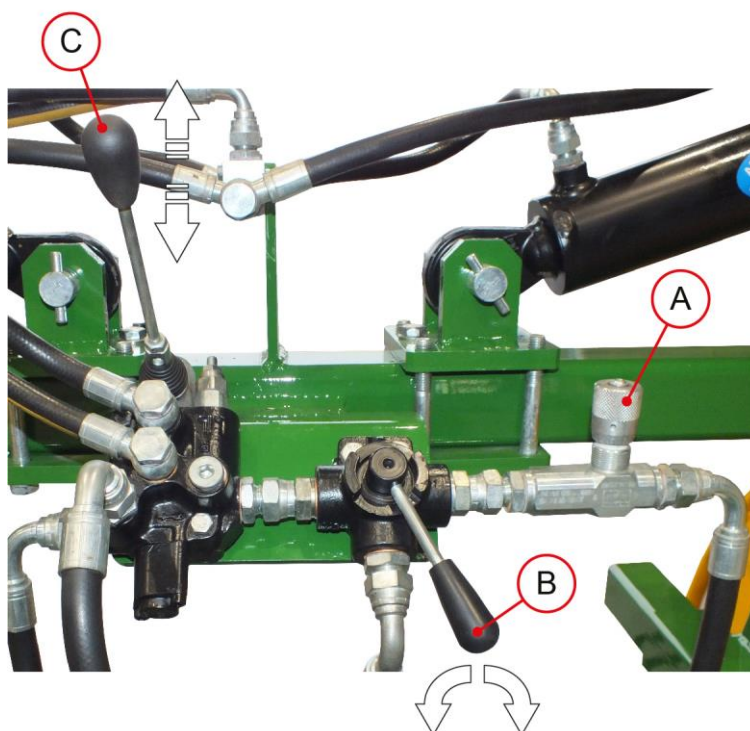

FIG. 7
- When closing the winders, check that there are no plant residues or other obstacles between the couplings pos. A Fig. 7, which may affect the correct linkage.
- Use the dedicated holes pos. B fig. 7 to fasten the rope used to block the drip tape.